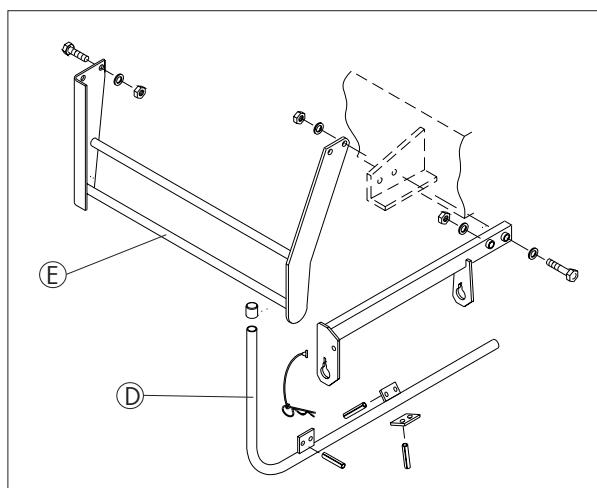

Fig. 3-21
First insert protective yoke (B) into the rear drilled hole (X) of frame (R), push it to the very end and then insert it into the front drilled hole. Fix protective yoke (B) with spring (F) and the washers to frame (R) using the split pins (fig. 3-21). Use the content of bag Q.
Assemble guard yokes (D) and (E) with the add-on parts from bag R (fig. 3-21).